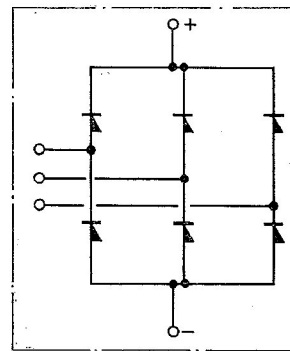

Fig. 2. Circuit diagram
5. Four $\frac{3}{8}$ in. B.S.F. fixing studs are brought out at one side of the rectifier unit. Their centre distances are given in Leading Particulars. The circuit diagram is given in *fig. 2*.